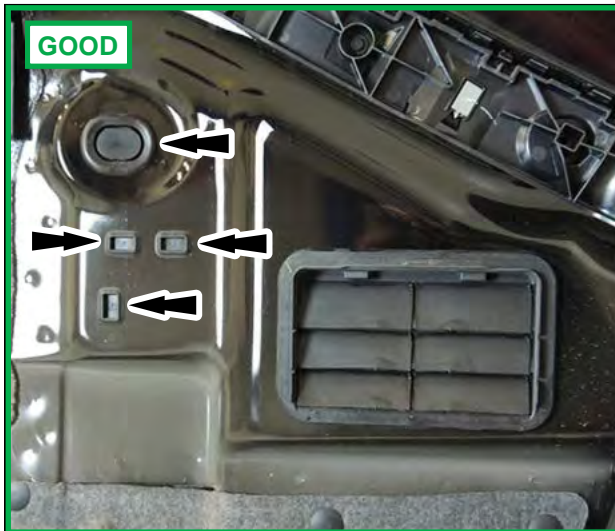

FIGURE 4a
4. Using a telescoping mirror and flashlight, inspect the 4 body plugs and air extractor through the wheelhouse openings on each side of the vehicle to determine if aftermarket wiring has been routed through these components. Reroute aftermarket wiring as needed. See Figures 4a and 4b.